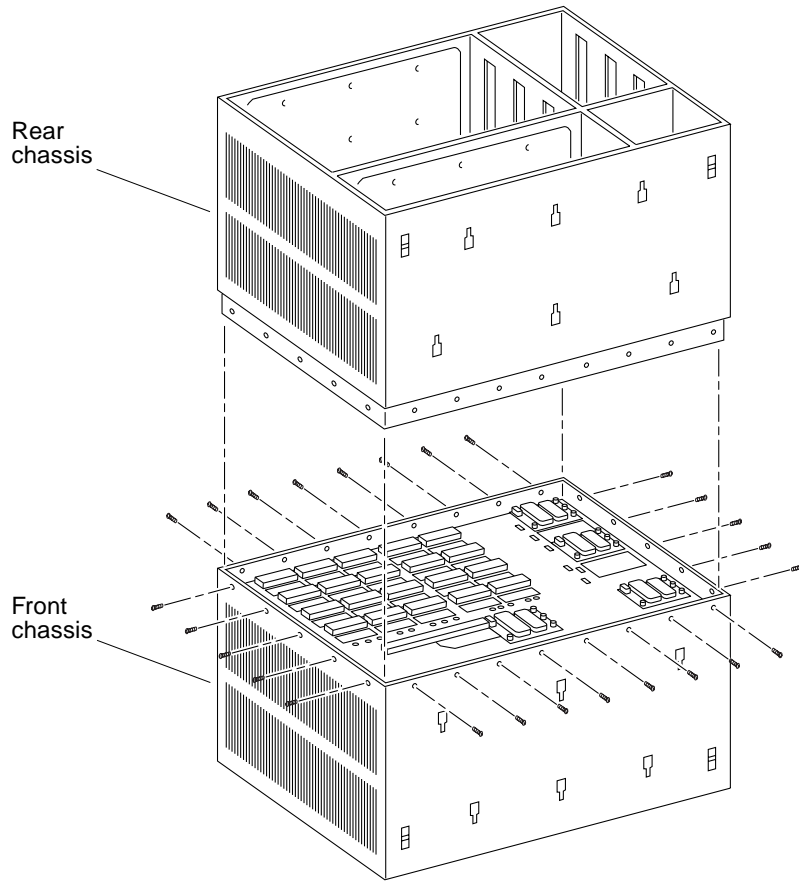

FIGURE 8 Front and Rear of the System Chassis
2. Lift and remove the rear chassis section and set it aside (FIGURE 8).